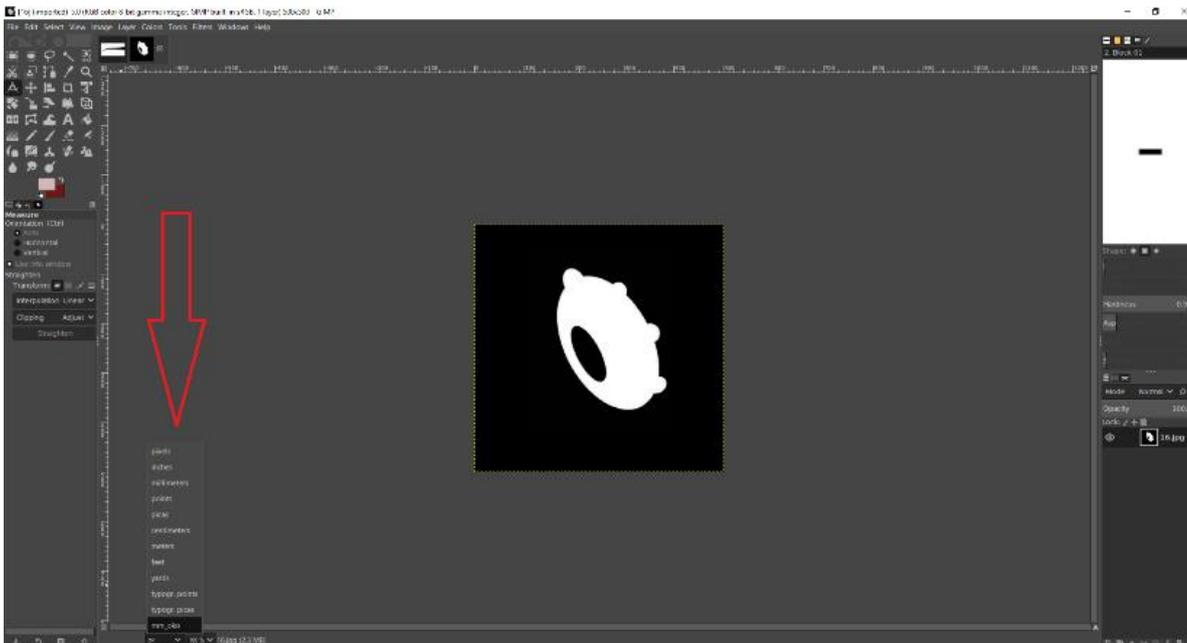

Fig. 8.2. Selection of the unit of measurement in the image editor.
- select units of measurement: mm-oko (for measuring in millimeters), inch-oko (for measuring in inches), px (for measuring in pixels). See figure 8.2.